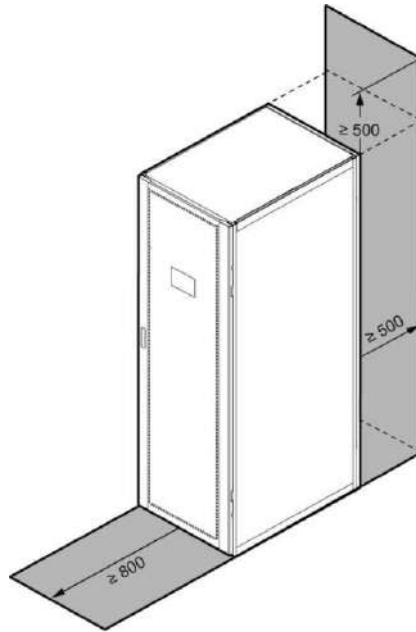
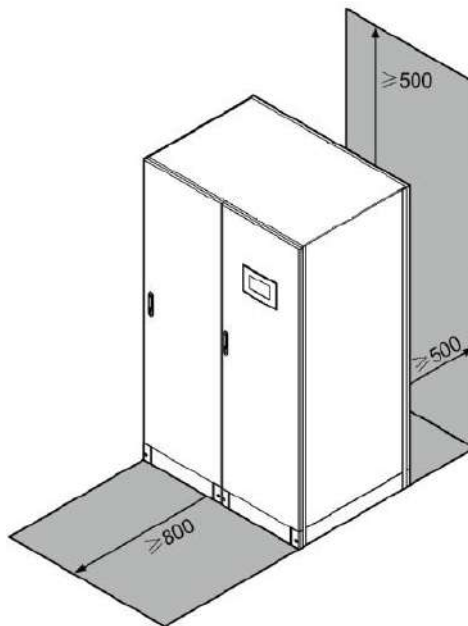

Fig. 2-4 Reserved space of 200 and 300kVA UPS (unit: mm)
Fig. 2-5 Reserved space of 400kVA, 500kVA and 600kVA UPSs (unit: mm)
- The reserved space is shown in Fig. 2-4 and Fig. 2-5.